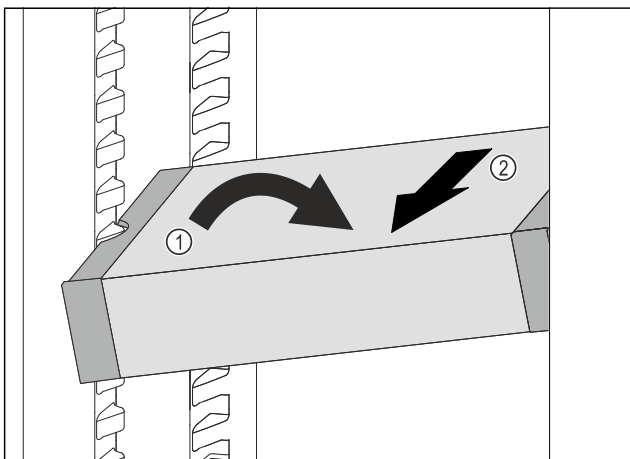

Fig. 83
- ▶ Set VarioSafe in refrigerator compartment at an angle. Fig. 83 (1)
- ▶ Take VarioSafe out to the front. Fig. 83 (2)